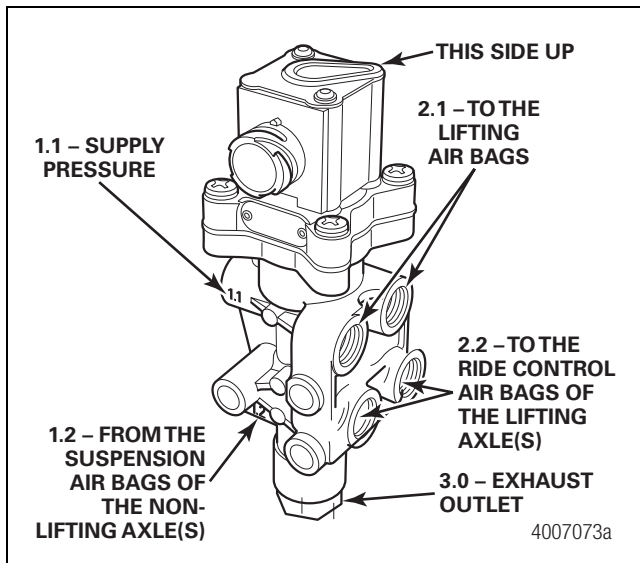

Figure 6
8. Ensure that the lift axle control valve is installed correctly. Refer to Figure 6.